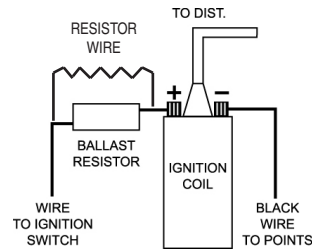

FIGURE 2
2. For installations that do not use a primary ballast resistor, connect the Ignitor red wire to the positive (+) side of the ignition coil. (See Figure 2)